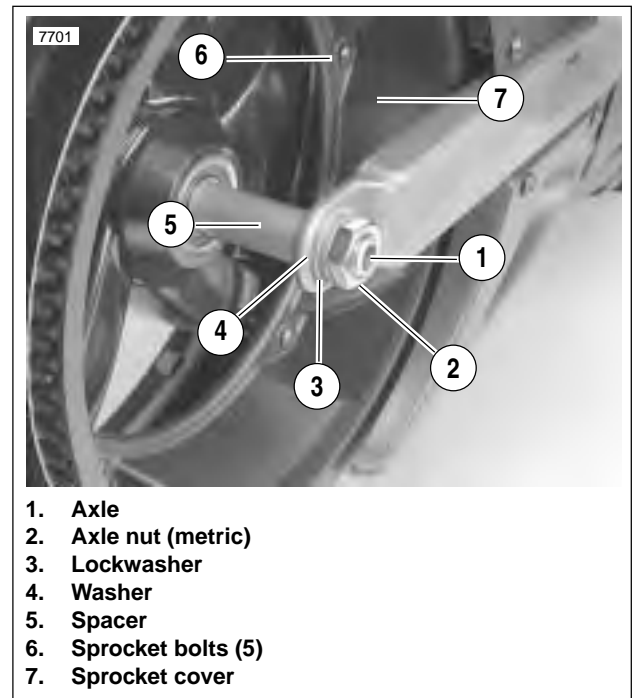

Figure 2-8. Rear Axle, Right Side
1. See Figure 2-8. Remove and discard five sprocket bolts (6) from sprocket cover.
2. Remove sprocket cover (7) from sprocket.